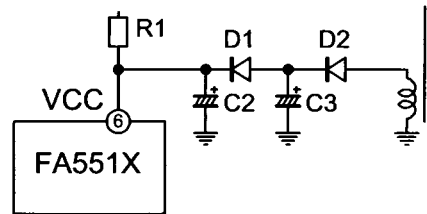

Fig.23 Startup circuit(4)
R1 should be decreased. But loss of the resistor R1 increases. In such case, the circuit shown in Fig. 23 is effective to shorten start-up period without increasing the loss of the resistor R1. The capacitor C2 is decreased to shorten the start-up period and, after the IC starts up, Vcc voltage supplied from C3 to prolong the hold time of the Vcc voltage. The start-up period of this circuit also is approximately given by the expression in (11)